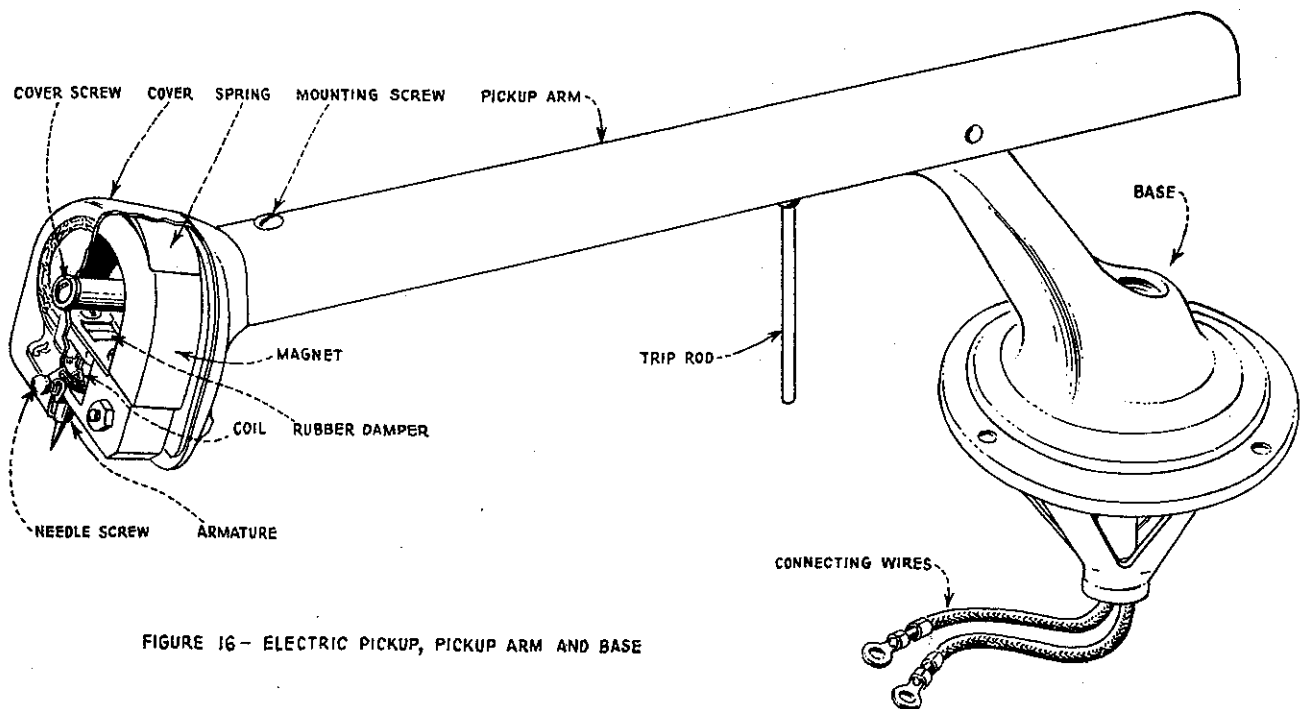

FIGURE 16 - ELECTRIC PICKUP, PICKUP ARM AND BASE
- b. Insert a screw driver through the holes in the back of the pilot lamp compartment as shown in Figure 16, and loosen the clamps on the old scale.
- f. Holding the scale in the proper position, re-tighten the screws as shown in Figure 16.